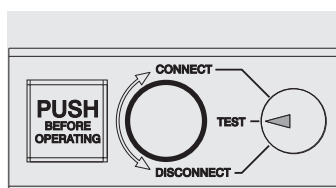

Figure 52
- circuit-breaker in test position (see Figure 52)